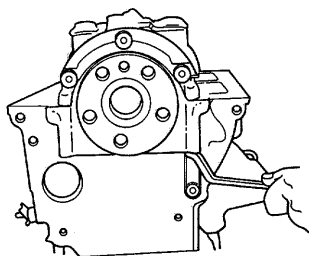

Figure 5-11. Oil Seal Housing
To remove the rear main cap, remove setscrews (see Figure 5-11).
- (1) Remove rear main bearing oil seal half housing setscrews (18, Appendix F, Figure 49) (see Figure 5-11).
- (2) Separate oil seal half housing (20) from bearing cap.
- (h) Assemble the half housings around the crankshaft rear journal and fasten together with two setscrews (see Figure 5-11).